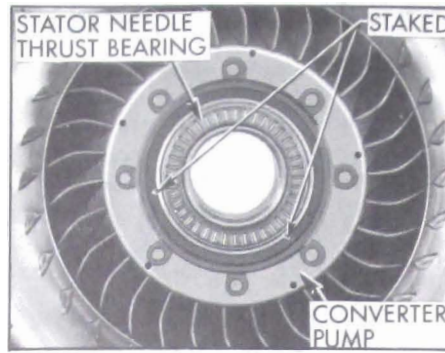

Figure 5-52—Stator Needle Thrust Bearing
3. Inspect converter pump and turbines for cracked or distorted vanes. Inspect turbine carrier, planetary gear teeth, thrust washers, bushings and related bearing surfaces for excessive wear, scoring or other damage. Examine stator needle thrust bearing staked in converter pump. See Figure 5-52. If bearing is damaged or worn excessively, carefully drive back the outer staking and remove the bearing. A new bearing assembly should be staked in very lightly, only enough to keep the bearing from falling out.